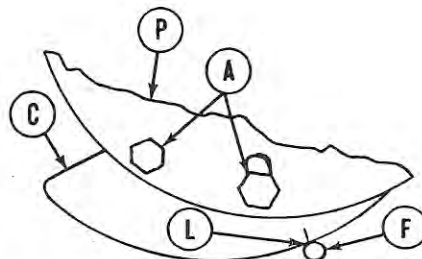

Fig. G50—Schematic view of speed control mechanism used on 12 and 15 horsepower models. Refer to text for method of adjustment.
**12 and 15 Horsepower Models:** The speed control lever rotates the magneto armature plate to advance the timing. A cam (C—Fig. G50), attached through cam follower (F) and linkage to open the throttle valve. To adjust the linkage, turn the speed control grip until scribe line (L) on cam aligns with cam follower as shown. Loosen the two cam attaching screws (A), and while holding throttle closed, move cam in slotted attaching hole until all slack is removed from linkage. Tighten the attaching screws, then check to be sure that throttle valve starts to open as cam follower passes the scribe line when speed control is advanced.